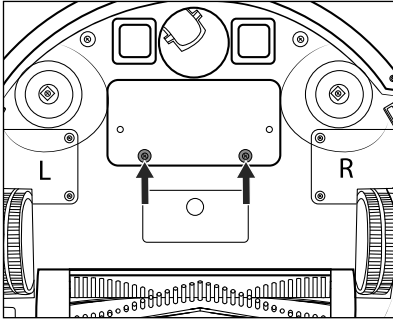

Fig. 16
- 1) Loosen the two screws of the battery compartment cover **29** (see Fig. 16) on the underside of the appliance using a Phillips screwdriver, and remove it from the appliance. Remove the battery compartment cover **29** from the appliance.